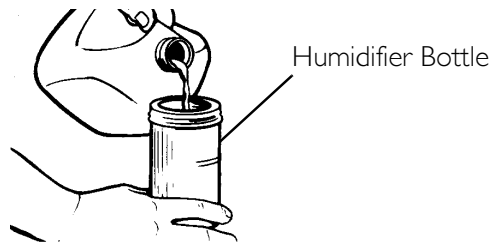
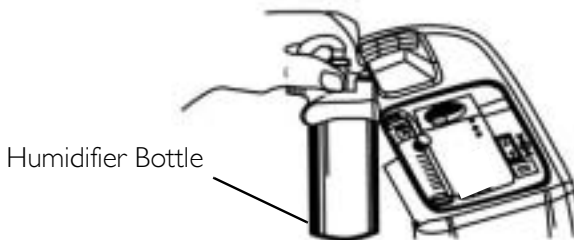
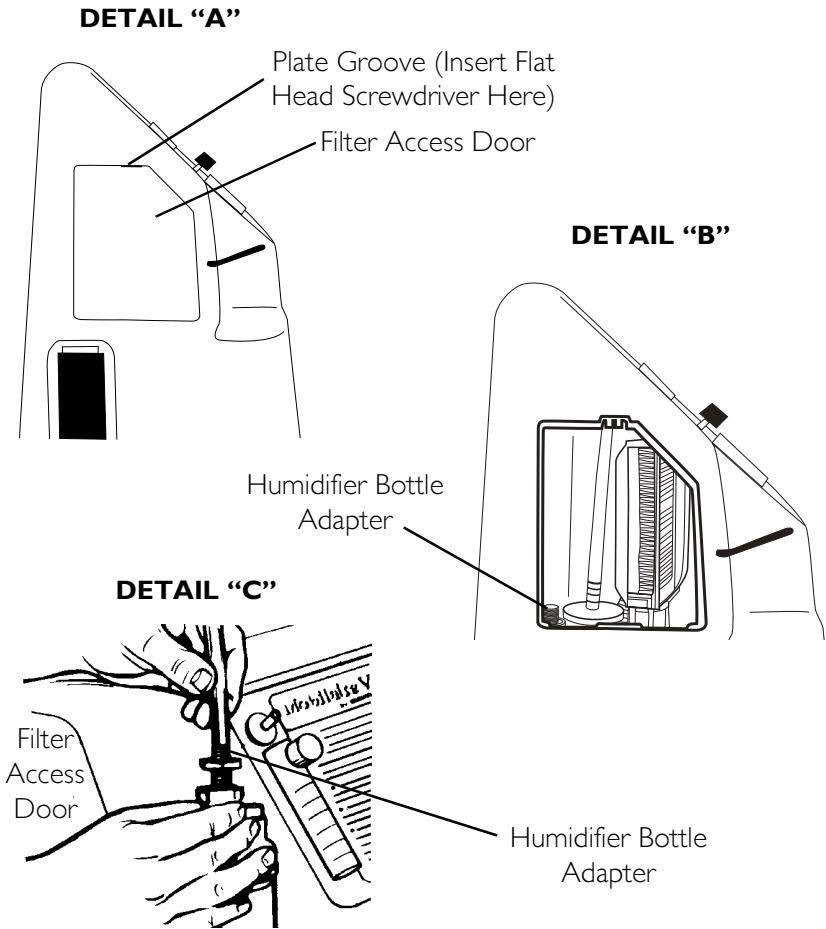
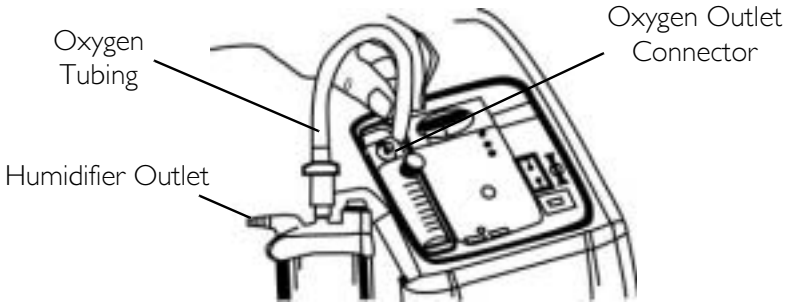

FIGURE 5.1 Filling the Humidifier
FIGURE 5.2 Humidifier Compartment
FIGURE 5.3 Attaching the Humidifier Bottle Adapter
FIGURE 5.4 Attaching the Oxygen Tubing
NOTE: For this procedure, refer to FIGURE 5.1 on page 21, FIGURE 5.2 on page 21, FIGURE 5.3 on page 23 and FIGURE 5.4 on page 24.
3. Remove the filter access door located on the side of the concentrator. Insert a flathead screwdriver in the plate groove on the top edge of the filter access door and gently pry the filter access door open. Refer to Detail "A" in FIGURE 5.3.
4. The humidifier adapter is next to the inlet filter. Pull up and remove the humidifier bottle adapter. Refer to Detail "B" in FIGURE 5.3.
5. Attach it to the humidifier by turning the wing nut on the humidifier bottle counterclockwise until it is securely fastened. Refer to Detail "C" in FIGURE 5.3.